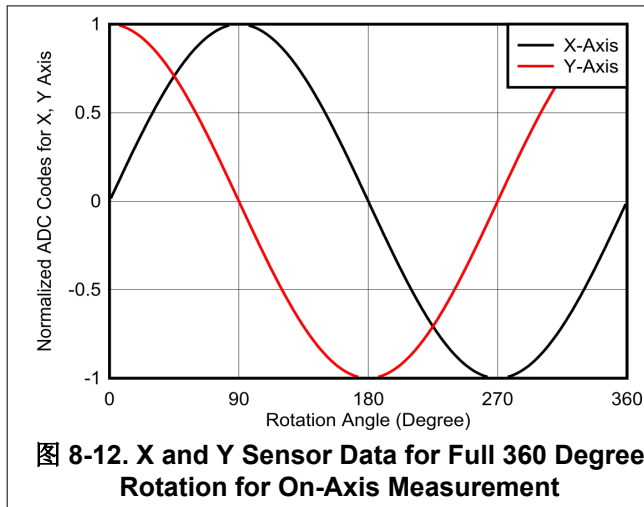
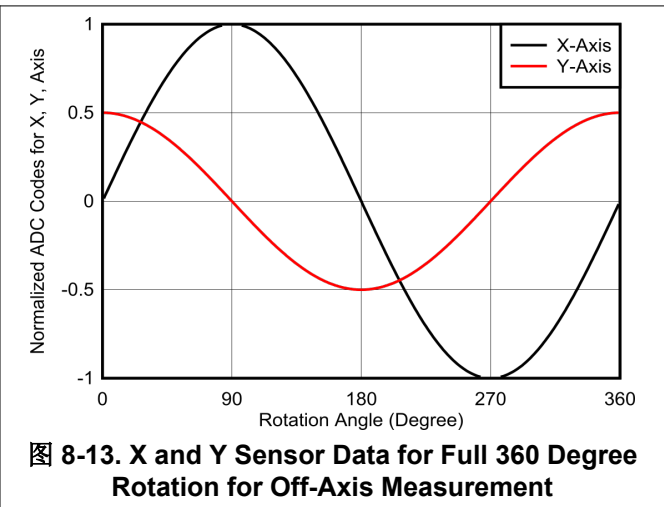

图 8-12. X and Y Sensor Data for Full 360 Degree Rotation for On-Axis Measurement
图 8-13. X and Y Sensor Data for Full 360 Degree Rotation for Off-Axis Measurement
- A normalized plot for the full 360 degree rotations are represented in 图 8-12 or 图 8-13.